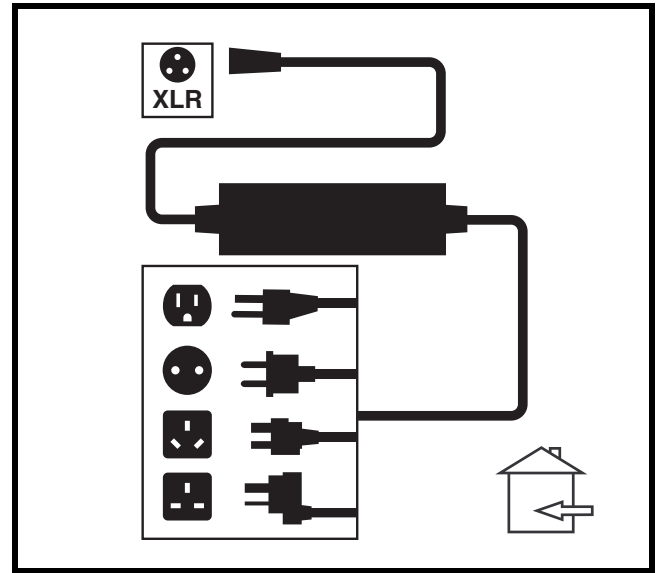

Figure 18. Battery Charging
3. Plug the off-board charger into the off-board charger/programming socket on the controller. See figure 18.